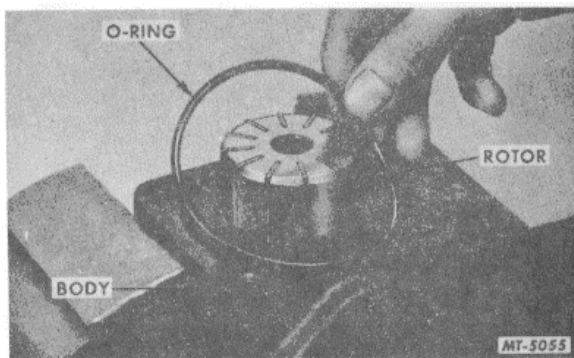

Fig. 10
5. Remove the "110 ring from the body, Fig. 10.